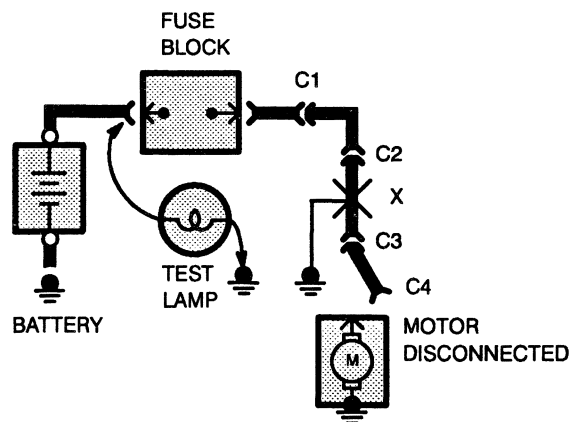

Figure 5—Short Check
A fuse that repeatedly blows is usually caused by a short to ground. It's important to be able to locate such a short quickly (Figure 5).
(Connector C4 in Figure 5)
5. Disconnect the test lamp lead that is connected to ground, and reconnect it to the load side of the fuse at the connector of the disconnected component. (In Figure 5, connect the test lamp lead to connector C4.)
- If the Test Lamp goes on, the short is in the wiring. You must find the short by disconnecting the circuit connectors, one at a time, until the Test Lamp goes out. For example, in figure 5 with a ground at X, the bulb goes out when C1 or C2 is disconnected, but not after disconnecting C3. This means the short is between C2 and C3.